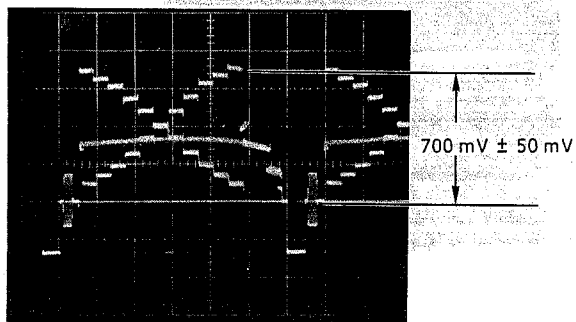

Fig. 4-6
- Adjust data by **ARROW** keys so that signal level becomes  $700\text{ mV} \pm 98\text{ mV}$  ( $98 \pm 7\text{ IRE}$ ) as shown in Fig. 4-6.
- Adjust data by **ARROW** keys so that signal level becomes  $700\text{ mV} \pm 50\text{ mV}$  ( $98 \pm 7\text{ IRE}$ ) as shown in Fig. 4-6.
- Repeat adjustment (10)-A-1 and (10)-A-2 until signal level becomes  $700\text{ mV} \pm 50\text{ mV}$  ( $98 \pm 7\text{ IRE}$ ).